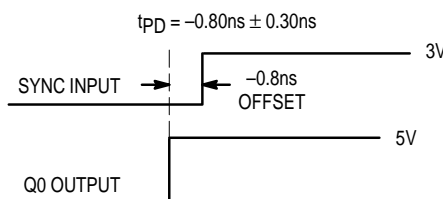

Figure 2. Depiction of the Fixed SYNC to Q0 Offset (t_{PD}) Which Is Present When a 1M Ω Resistor Is Tied to V_{CC} or Ground
- A 1M Ω resistor tied to either Analog V_{CC} or Analog GND, as shown in Figure 2, is required to ensure no jitter is present on the MC88916 outputs. This technique causes a phase offset between the SYNC input and the Q0 output, measured at the pins. The t_{PD} spec describes how this offset varies with process, temperature, and voltage. The specs were arrived at by measuring the phase relationship for the 14 lots described in note 1 while the part was in phase-locked operation. The actual measurements were made with a 10MHz SYNC input (1.0ns edge rate from 0.8V to 2.0V). The phase measurements were made at 1.5V. See Figure 2 for a graphical description.